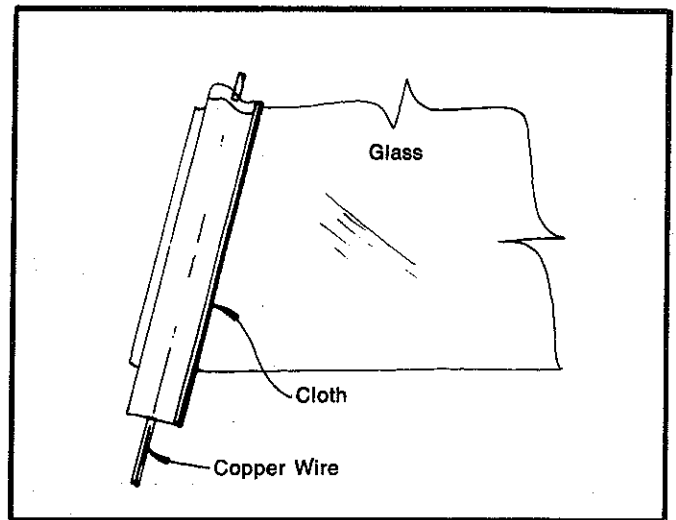

Fig. 5—Positioning butyl tape
(4) Bare the end of the butyl tape to the copper wire core for 30 to 40 mm (1.2" to 1.6"). Remove the cloth only for a further 30 to 40 mm (1.2" to 1.6").
(5) Starting in the bottom corner of the glass, position the tape with the cloth facing inwards as shown in Fig. 5.